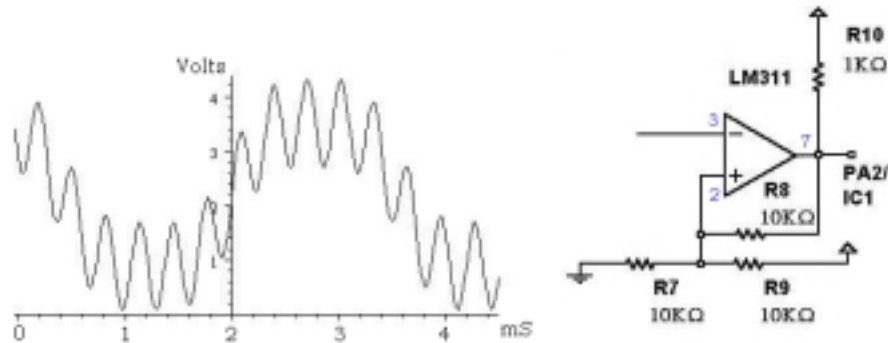

Figure 10.4 Waveform of signal with noise and a comparator circuit designed to eliminate some of the effects of such noise.
The comparator circuit shown in Figure 10.4. The output of the LM311 comparator goes high (V_{CC}) if the voltage fed to the inverting input (-) is less than the voltage fed to the non-inverting input (+). The output of this comparator goes low (ground) if the voltage fed to the inverting input is greater than the voltage fed to the non-inverting input.
11. Assume that the comparator shown in Figure 10.4 is fed a signal represented by the waveform to its left. Draw the output waveform of the comparator with hysteresis and without (R8 removed).